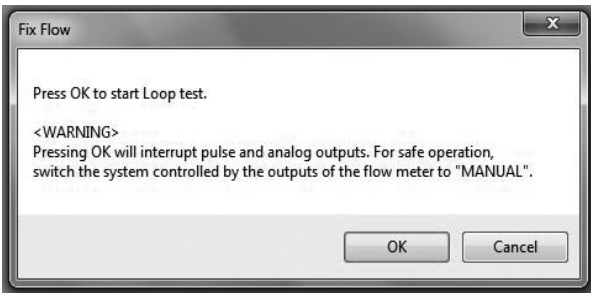

Fig. 3-58
- (3) By clicking "Start" button, the message box (Fig. 3-58) will be displayed. By clicking "OK" button, "Fix Flow" will be started.